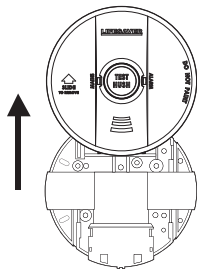

Figure 2: To remove smoke alarm
1. Separate the Smoke Alarm from its mounting base - by sliding the Smoke Alarm in direction of arrow, while holding the back of the mounting base (See Figure 2).